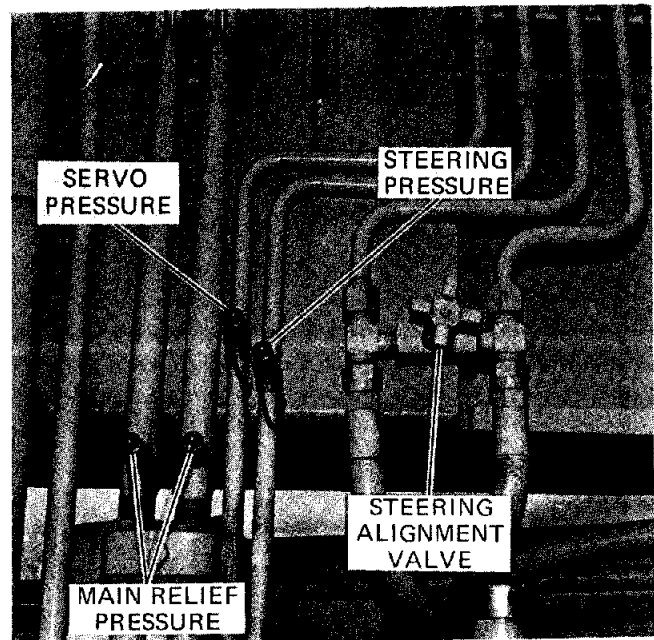

Figure 19. Pressure Check Points "Servo Pressure"
2. Connect pressure gauge to the pump output disconnects at the test station (Figure 19).
1. Attach the pressure gauge to the relief valve test station (quick disconnect, Figure 19).
1. Attach a pressure gauge, capable of a 1000 psi (6 894 kPa) to the relief valve test station (Figure 19).